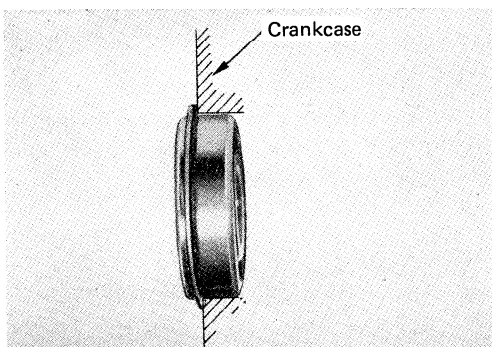

Fig. 5-5-1
A. Install the crankshaft right bearing with its stop ring facing inside the crankcase as far as the ring touches the crankcase wall. (Fig.5-5-1)